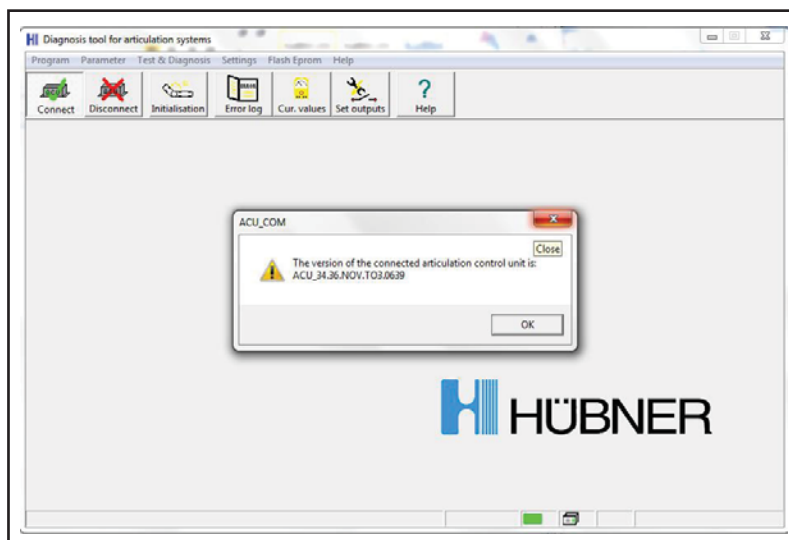

Figure 6 - Typical Window Identifying the Already Installed ACU Software
- 1.11. A pop-up window will appear to identify the already installed ACU software. See Figure 6. Click OK.